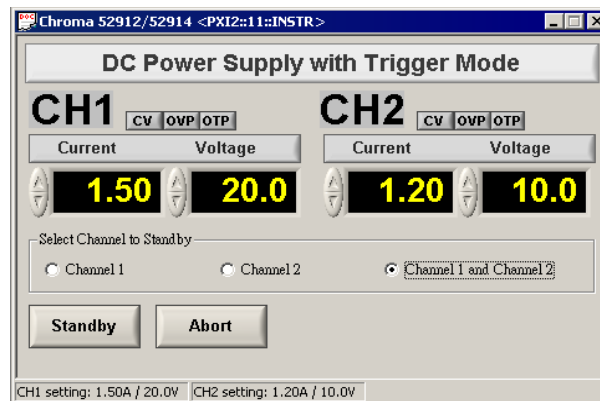
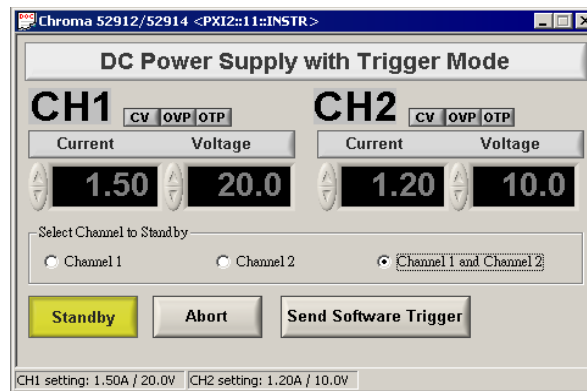

Figure 4-13 Example for DC Power Supply mode
Figure 4-14 Example for Waiting a TTL0 trigger
Step2: The appearance of soft control panel will be changed as in Figure 4-13. Enter your values of the voltage and current for each channel. Select the checkbox of “Channel 1 and Channel 2”. Then click on the **Standby** button. The 52912/52914 now starts waiting for a TTL0 trigger, and the button becomes **Standby** (see Figure 4-14.)
Step3: Then you need to generate a TTL7 trigger. After receiving the TTL7 trigger. The 52912/52914 goes back to wait for the TTL0 just like what is shown in Figure 4-14.